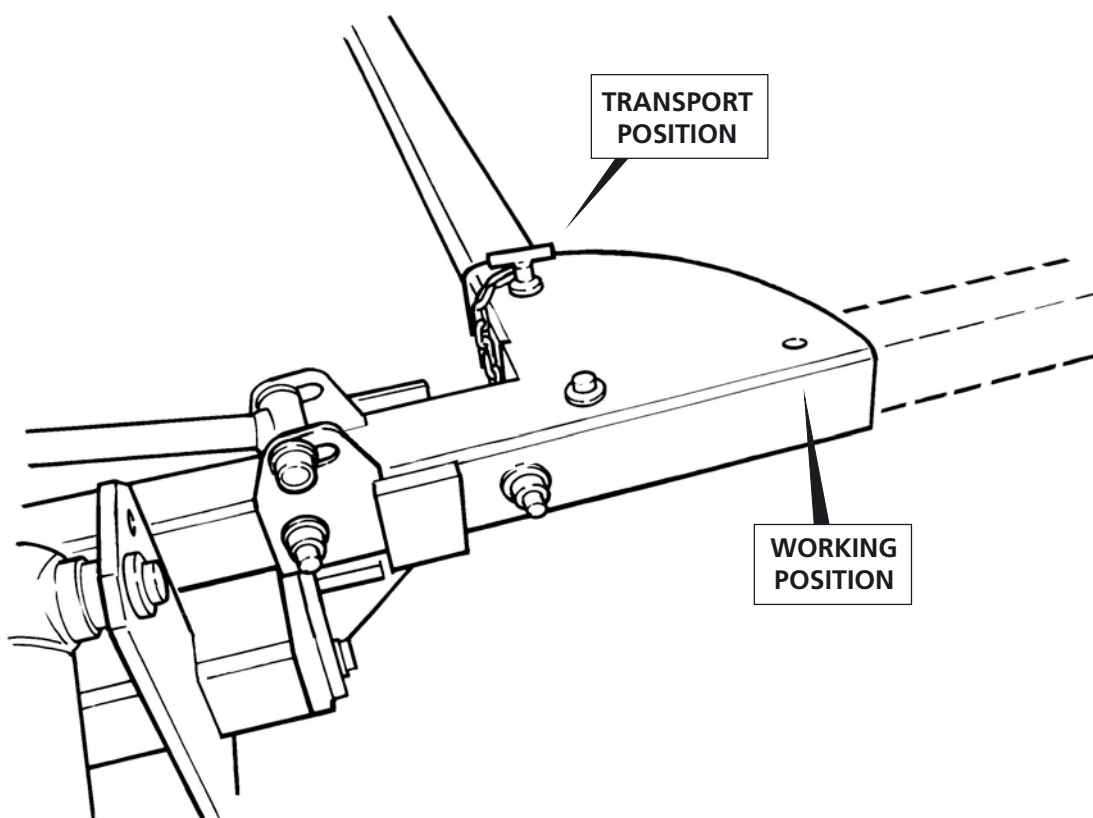

Fig 1
- Retract the marker arm extension tubes and secure with the pinch screws. Remove locking pins from pivot mounts and swing marker arms into transport position, Fig 1. Replace pins.
Hydraulically operated marker arms are fitted to allow the operator to retract the markers when turning at headlands. (see Fig 1 for pin position details).